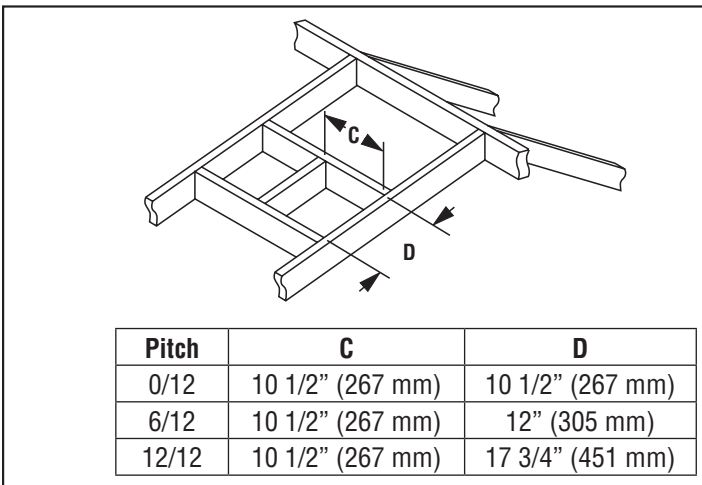

Figure 19 - Roof Framing Dimensions
- 9. Frame the roof opening**—Identify the location for the vent at the roof. Cut and/or frame opening (Figure 19).